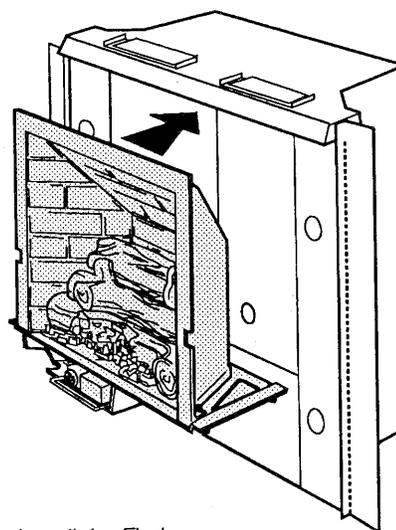

Figure 11. Install the Firebox.
Step 6. Lift the Firebox as a unit and position its base on the support shelves attached to the sides within the cabinet. Fig. 11. Properly seated, the Firebox Base will be securely engaged and level.